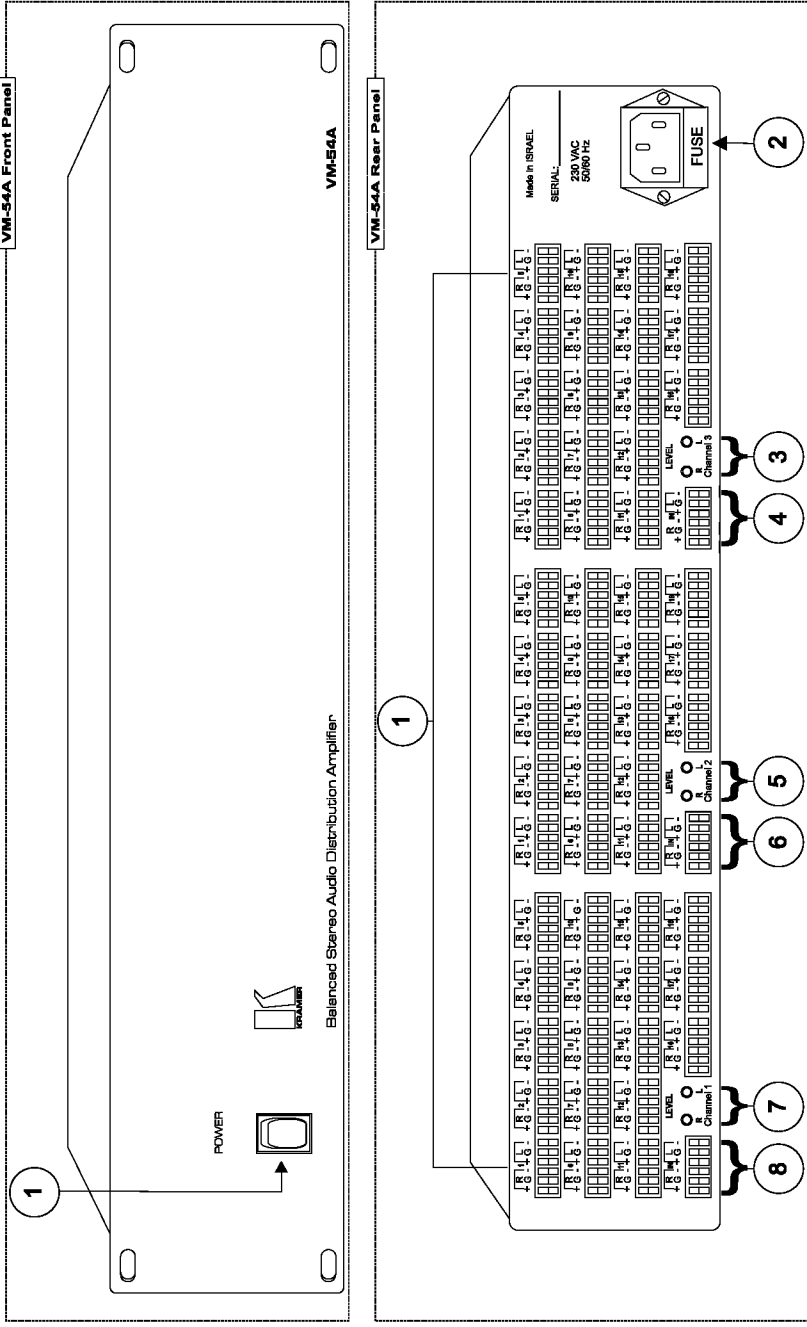
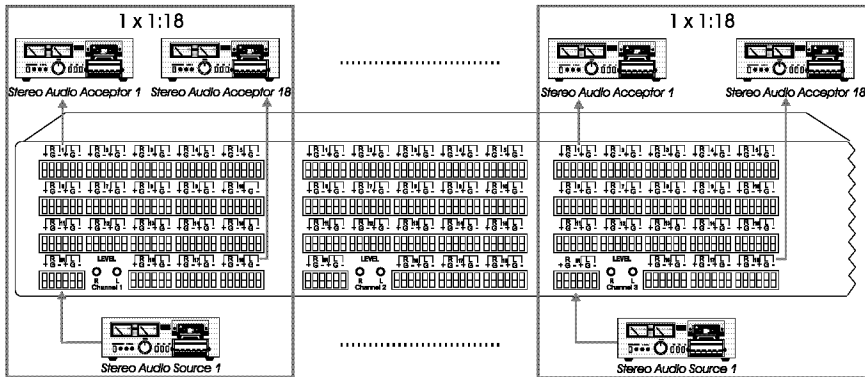
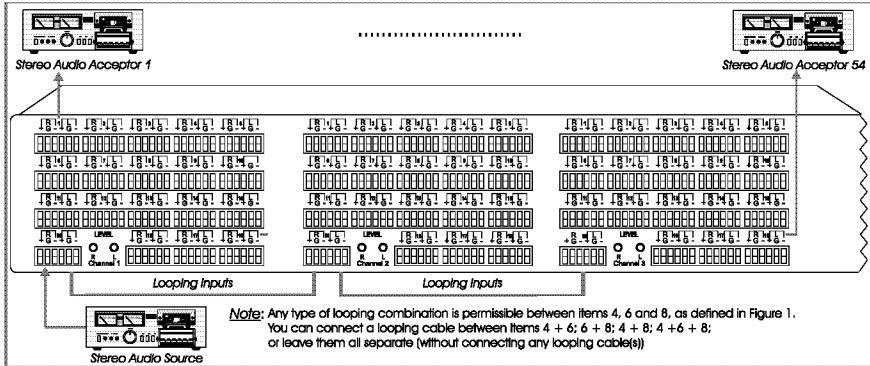

Figure 1: Balanced Audio Stereo Distribution Amplifier
Figure 2: 3 x 1:18 Balanced Audio Stereo Distribution Amplifier
Figure 3: 1 x 1:54 Balanced Audio Stereo Distribution Amplifier
| Figure 1: | Balanced Audio Stereo Distribution Amplifier | 3 |
| Figure 2: | 3 x 1:18 Balanced Audio Stereo Distribution Amplifier | 4 |
| Figure 3: | 1 x 1:54 Balanced Audio Stereo Distribution Amplifier | 5 |
Figure 1 illustrates the front and rear panels of the **VM-54A**. Tables 1 and 2 define the front and rear panels of the **VM-54A**, respectively.
To connect a VM-54A unit, connect the audio source(s) and audio acceptor(s)² to the rear panel, as Figure 2 and Figure 3 illustrate:
1 Connect a looping cable between items 4, 6 and 8, as defined in Figure 1 and illustrated in Figure 3